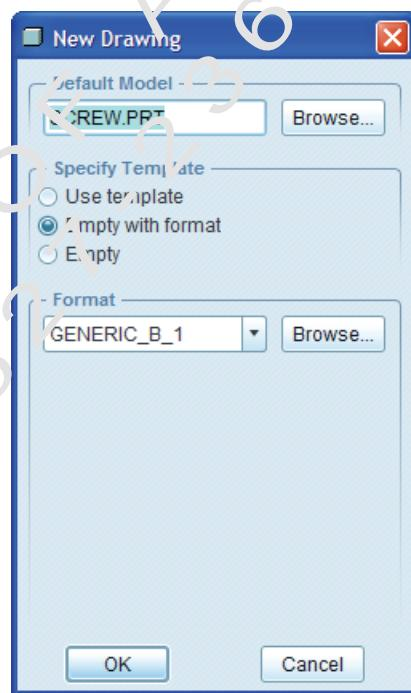

Figure 1–112
9. Click in the Format section and double-click on generic\_b.frm in the formats directory. If the formats directory is not listed in the Open dialog box, click to browse to the working directory and then select the format directory. The dialog box appears as shown in Figure 1–112.